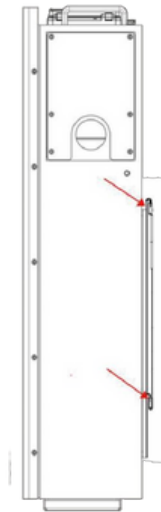

Figure 5-3
- Ensure the upper and lower hooks on the battery backplate properly engage with the mounting bracket, as shown in figure 5.3.